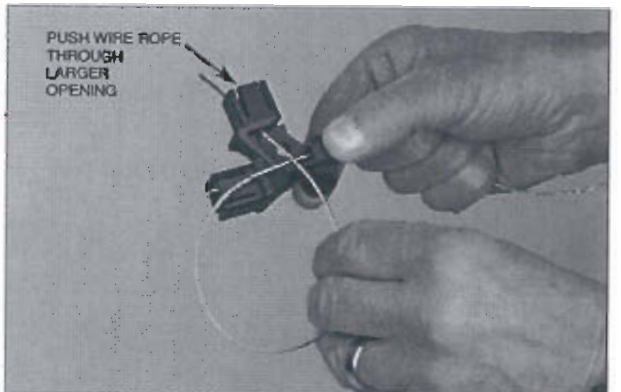

FIGURE 66
3. Pull slack, make a loop and insert the rope through the larger opening in the bearing area. See Figure 66.